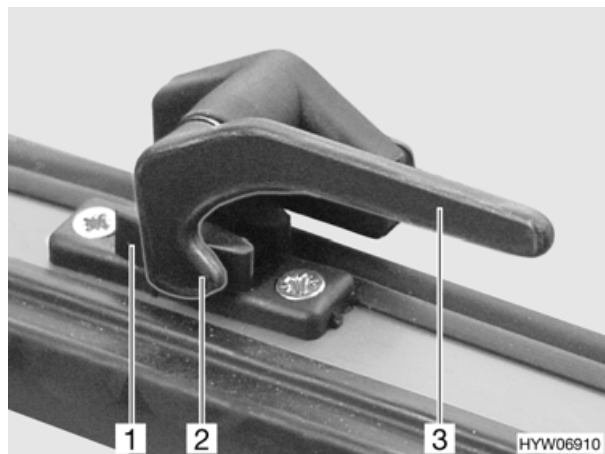

Fig. 18 Hinged window, window handle closed
- Place window handle (Fig. 18,3) into a vertical position.
- Place the window handle (Fig. 18,3) into a horizontal position. The locking catch (Fig. 18,2) is located on the inside of the window catch (Fig. 18,1).
- firmly closed (Fig. 18).